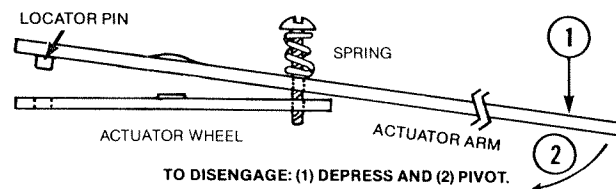

Fig. 8 — Disengaging actuator arm from draft damper
SCREW TO BE TIGHTENED ONLY ENOUGH TO SEAT LOCATOR PIN ARM INTO HOLE IN WHEEL SO ARM CAN BE DISENGAGED FROM WHEEL BY DEPRESSING ARM. SEE FIG. 8.
4. The actuator arm can be disengaged from the wheel to manually close the draft damper when the damper operator is energized, or to prevent operation of the draft damper as the damper operator responds to the controller. In this position the actuator arm can be pivoted so as to be clear of the draft damper during the operator's rotation. See Fig. 8.